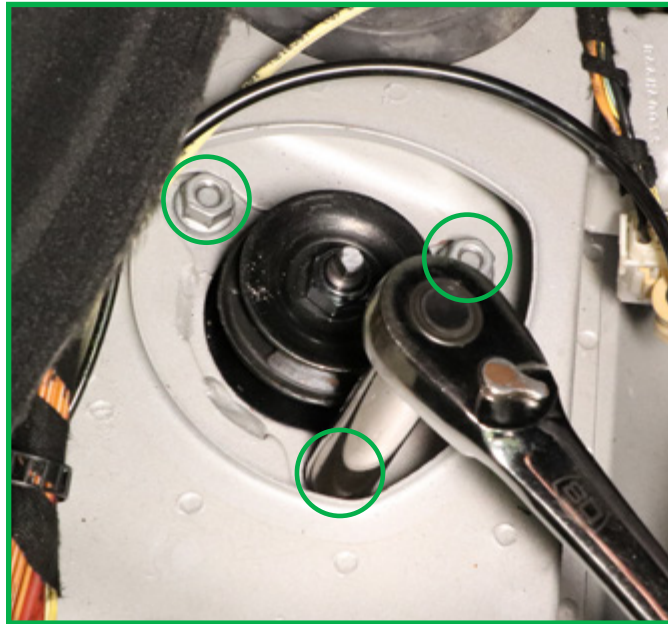

FIGURE 44
9. Install three (3) shock top mount nuts. Tighten to manufacturer's specifications. (Figure 44)